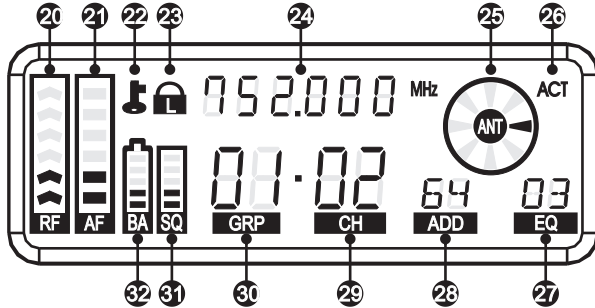

Fig. 9
1. VFD Screen Displays functions and parameters, Fig. 9: